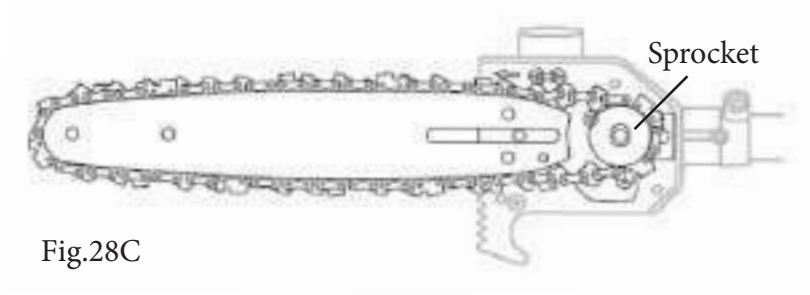

Fig.28C
- b) Place the saw chain around the sprocket with the cutting teeth corresponded to the direction of the symbol on the housing. (Fig.28C)